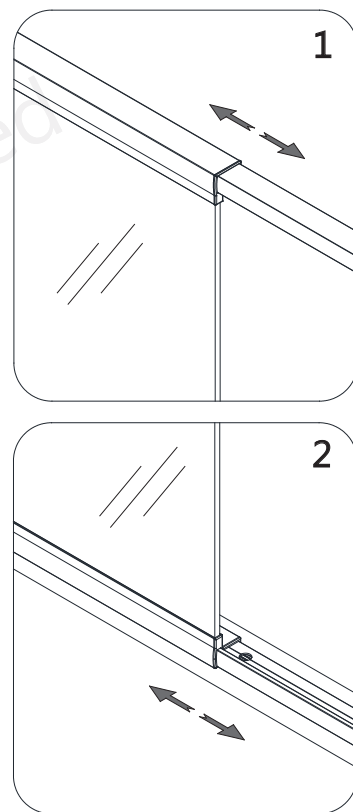

**Fig 6**
- 6.** Place the assembly onto the threshold at the desired location and extend the expandable **Top & Bottom Pivot Rails (#15)** evenly. **(Fig 6)**